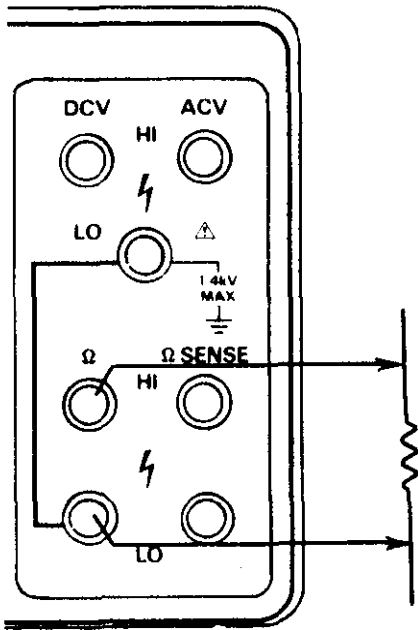

Figure 4-4. Resistance Measurements
4. Connect input between  $\Omega$  and LO (see Figure 4-4).